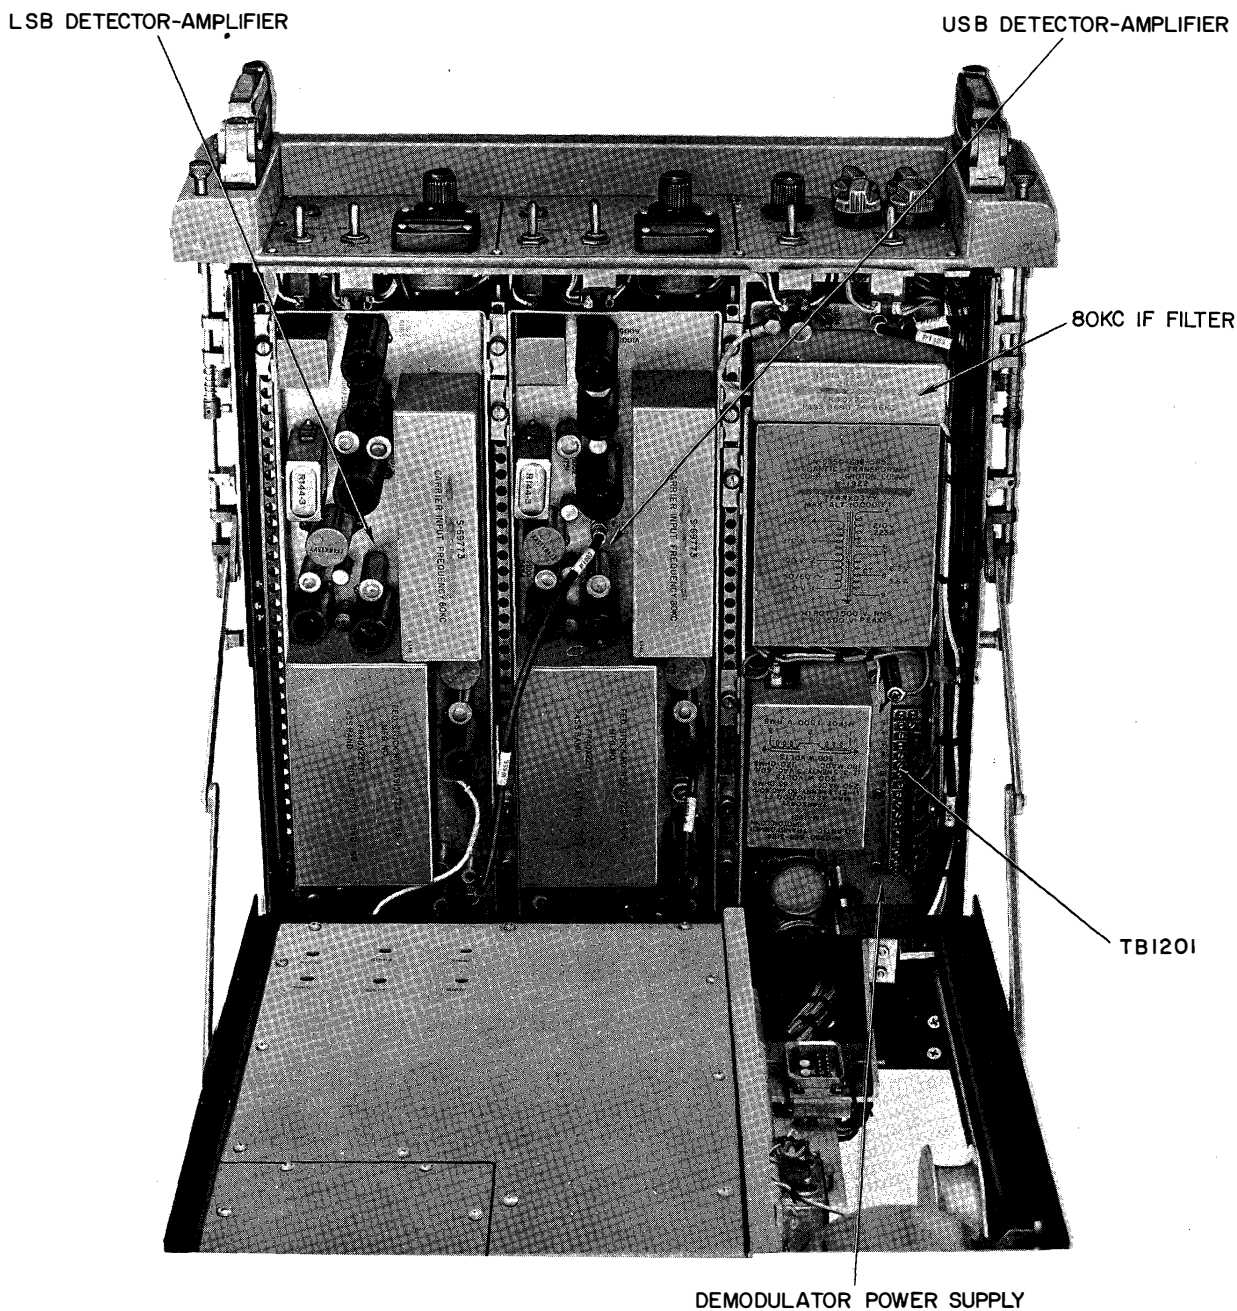

Figure 6-8. Demodulator Drawer, Lower Deck, Top View
- (1) 80 KC IF FILTER. (See figure 6-8.)
(3) USB DETECTOR-AMPLIFIER. (See figures 6-8 and 6-9.)
(4) LSB DETECTOR-AMPLIFIER. (See figures 6-8 and 6-9.)